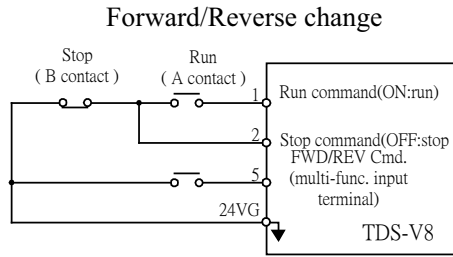

Fig.22 3-wire mode connection diagram
Under 3-wire initialization mode (Sn-03= 04 or 06 or 08), the Multi-Function Input Terminals ⑤ have setting “00”, the inverter will be in 3-wire mode operation. As shown in Fig 22, the Forward/Reverse change mode is set at the terminal ⑤.(Sn-25 =00)